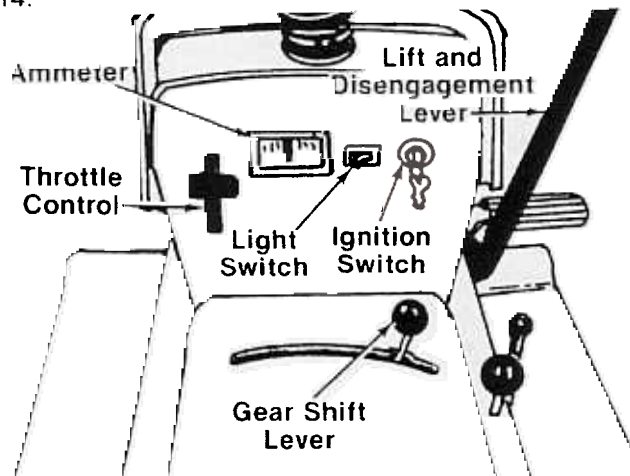

FIGURE 14.
The throttle control is used to regulate the engine speed and to activate the choke on the engine. To get maximum efficiency from cutting, the throttle should be in the FAST position when operating the mower. Pushing the throttle all the way forward past FAST, will choke the engine. See figure 14.
The gear shift lever is used to shift into one of the forward gears, "NEUTRAL" or "REVERSE." See figure 14. Model TMO-33902A has three forward gears. Model TMO-33886C has five forward gears.
Turn the key to the "START" position to start the engine. When the engine is running, let the key return to the "ON" position. To stop the engine, turn the key to the left to the "OFF" position and remove it to prevent accidental starting. See figure 14.
Push the light switch to turn on the lights. The lights will only operate when the engine is running. See figure 14.
The ammeter registers the rate of battery charge or discharge. The ammeter will register on the discharging side when starting the engine. It should register on the opposite side (charging) when the engine is running in the fast position until the battery is completely charged. With a fully charged battery or with the engine idling, the ammeter will not show a charge. See figure 14.
The lift and disengagement lever is used to raise and lower the cutting deck. Pulling it all the way back and locking it disengages the blades. The lift and disengagement lever **must** be in the disengaged position when starting the engine and when shifting into reverse. See figure 14.
4. Set the throttle control in the CHOKE position. See figure 14.
5. Turn the ignition key to the "START" position. When the engine is running, let the key return to the "ON" position. See figure 14.